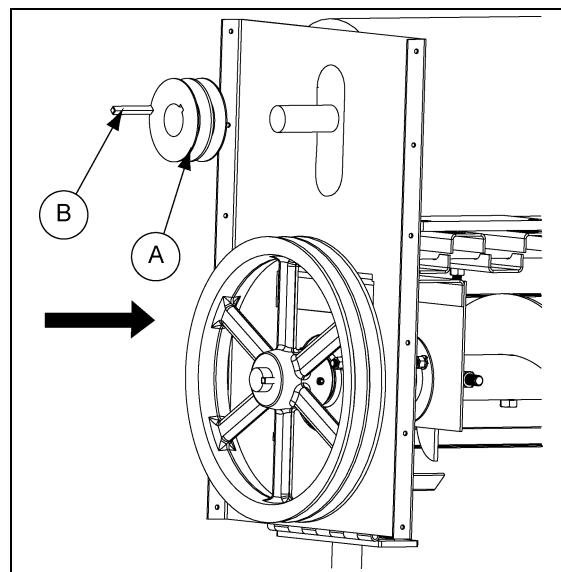

Figure 4AP
Step 18: Fit motor pulley. (See Figure 4AP.)